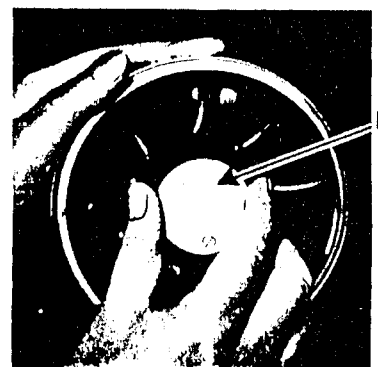

Fig. 15
- Hold machine pulley and loosen knurled screw K, Fig. 15.
- Tighten knurled screw K, Fig. 15.
NOTE: To wind bobbins while machine is stitching, follow instructions above but omit loosening of knurled screw K, Fig. 15.